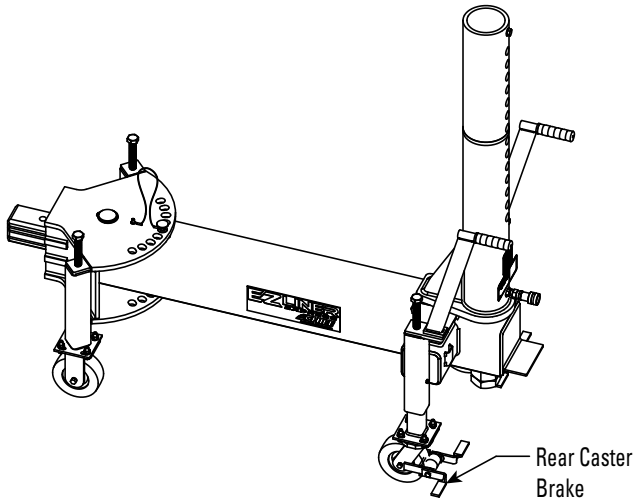

Figure 4
1. Set the brake on the Rear Casters (see Figure 4).